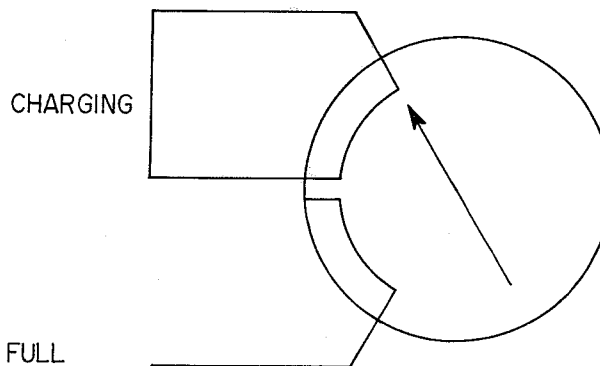

Fig. 4-4
2. Next, adjust semi-fixed volume (VR-1003, 1 KB) so that the charging indicator needle is at the right edge of the green area as shown in fig. 4-4.